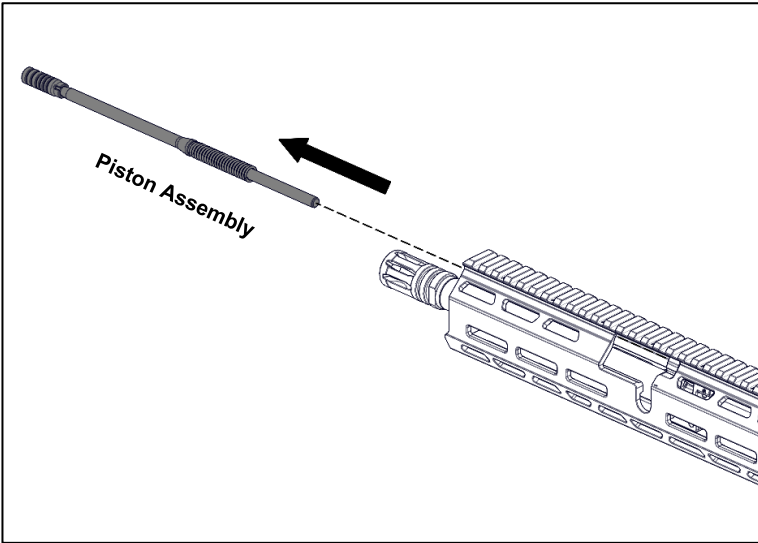

Figure 9-7 - Pulling out the Piston Assembly
5. Push the Piston forward with the cleaning rod from the butt side and take it out of the Gas Cylinder (Figure 9-7).